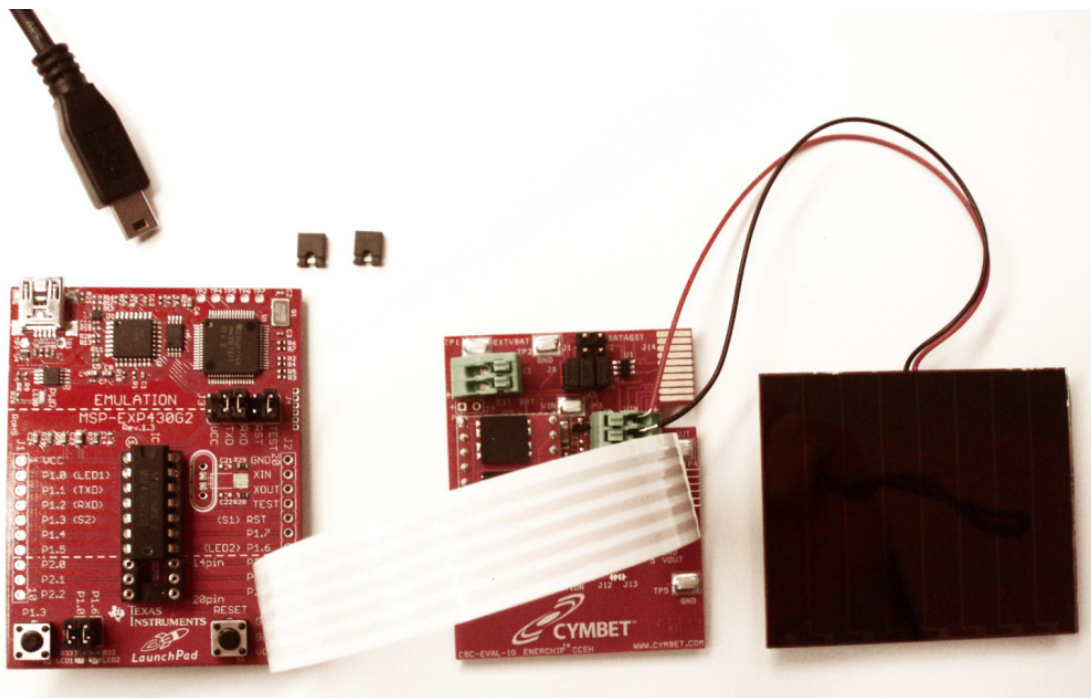

Figure 1: Cymbet CBC-EVAL-10 Energy Harvesting Evaluation Kit (right) Powering the TI LaunchPad (left).
This application note describes how three of the Cymbet Energy harvesting EVAL kits can provide uninterrupted power to the Texas Instruments MSP430-based LaunchPad development kit. Figure 1 illustrates the Cymbet EVAL-10 EnerChip CC Solar Energy Harvesting Kit connected to the TI LaunchPad. The EVAL-10 evaluation kit from Cymbet captures ambient light (indoor or outdoor) from the solar cell, converts the power efficiently using the Enerchip power management circuit, and provides continuous regulated power to the LaunchPad.
- CBC-EVAL-10: EnerChip[™] CC Energy Harvester Evaluation Kit (Figure 1)